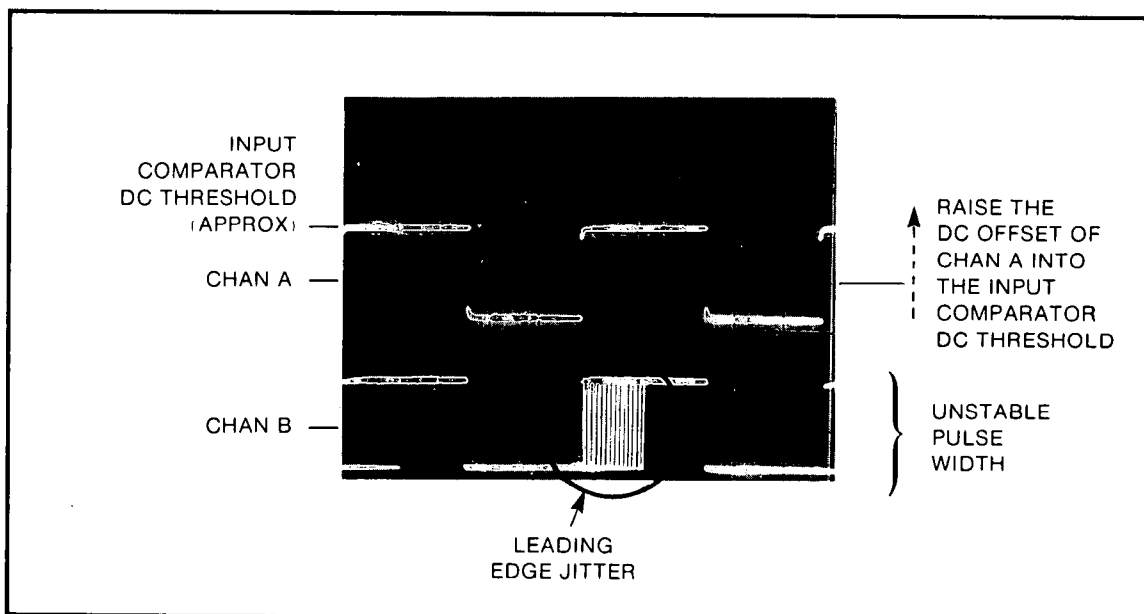

Figure 5-6. Over-Compensated
- f. Repeat the procedures in steps d. and e., with the OFFSET VERNIER set to the fully negative position. Ensure that the comparator output snaps in cleanly, with no leading edge jitter, as the dc offset of the input signal is raised into the comparator threshold. Refer to *Figures 5-6 and 5-7*.